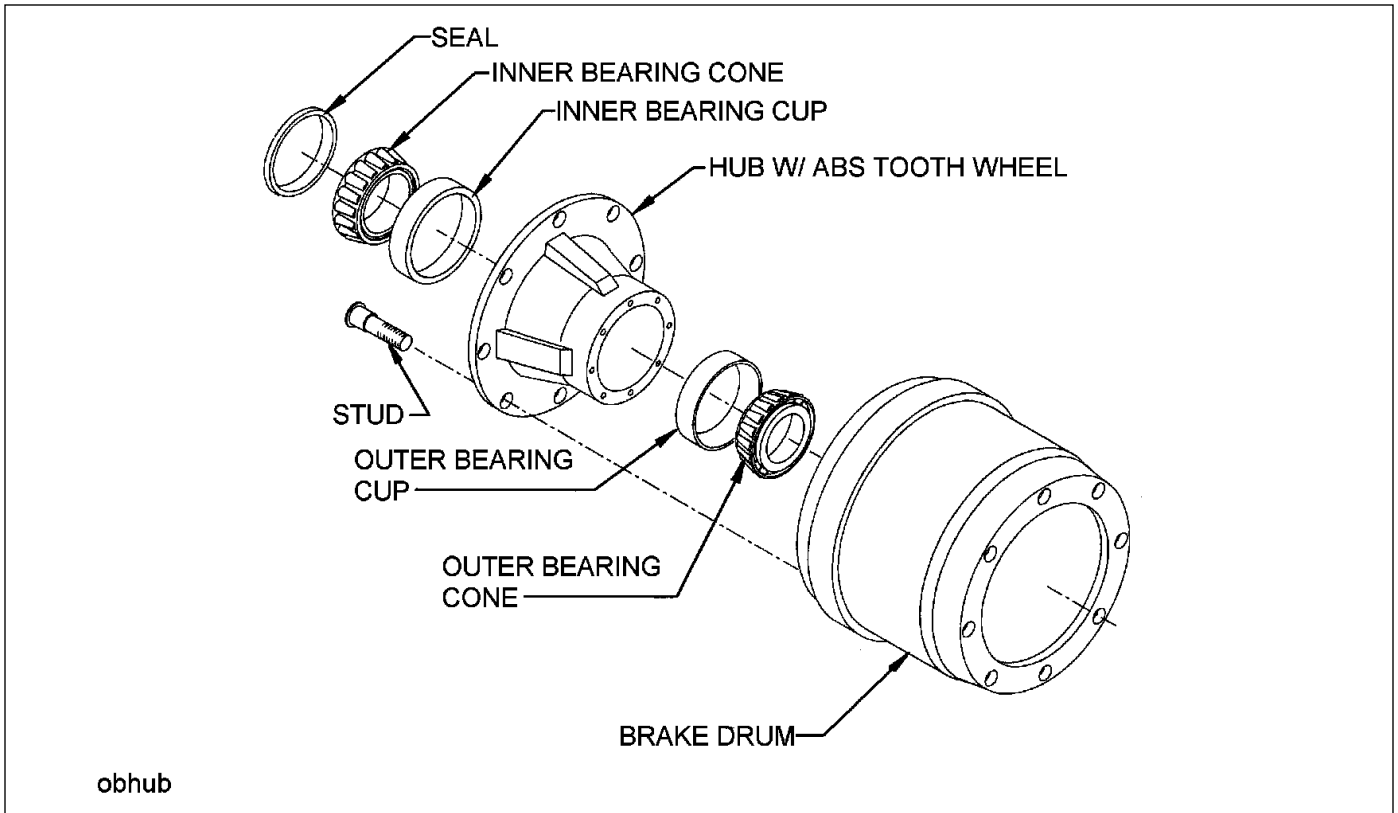

Figure 4-15: Outboard Mount Hub and Drum
7. Replace the hub and drum as follows (**See Figure 4-15.**):
- a. Remove the brake drum (**See Figure 4-15.**) It may be necessary to release the slack adjuster.